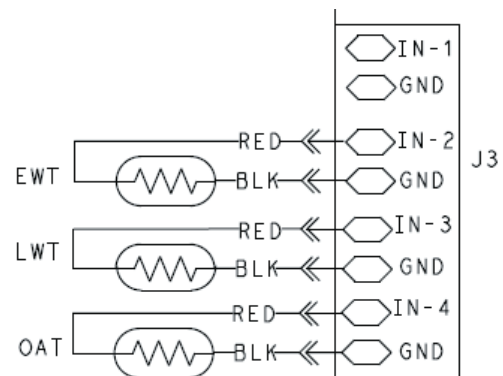

Fig. 45 — Thermistor Connections to Controller, J3
1. Connect the digital voltmeter across the appropriate thermistor terminals at the J3 terminal strip on the controller. See Fig. 45.